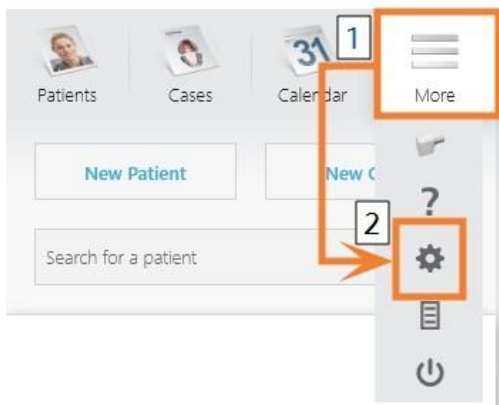

FIG. 18 – OPENING THE SETTINGS IN TRIOS DESIGN STUDIO
9. In the menu bar, select More. In the drop-down menu, select the Settings icon (Fig. 18 – on the next page).